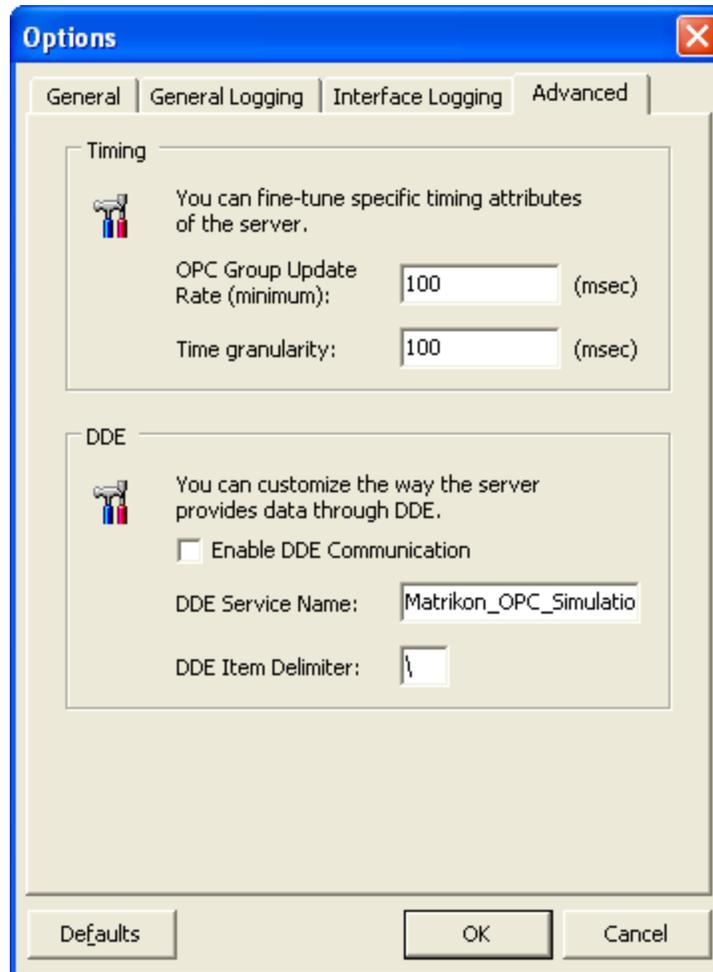

Figure 17 - Advanced Options Tab
3. From the **Options** window, select the **Advanced** tab (Figure 17).